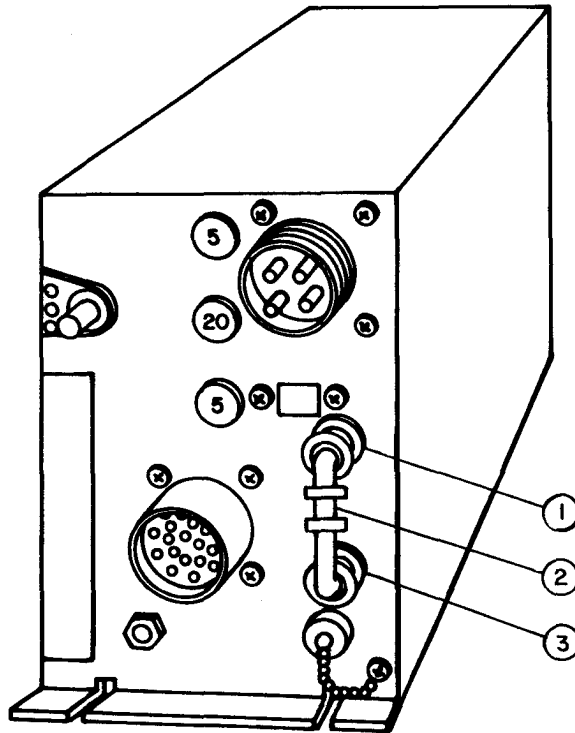

Figure 3-8. Amplifier-Coupler Connector Adapters
1. Refer to figure 3-8. Twist ribbed portion of two connector adapters (1 and 3) at connections to amplifier-coupler so that guide pins move from the locked position. Gently pull assembled unit of two connector adapters (1 and 3) and middle connector adapter (2) from amplifier-coupler.
2. Twist ribbed portions of middle connector adapter (2) so that guide pins move from the locked position. Gently pull two connector adapters (1 and 3) from middle adapter (2).
1. Refer to figure 3-8. Slide connector adapter (1) into one end of middle connector adapter (2) so that the guide pin fits into the slot in the middle connector adapter (2). Twist ridged portion of the middle connector adapter (2) until the guide pin locks in place.
2. Repeat step one for connector adapter (3).